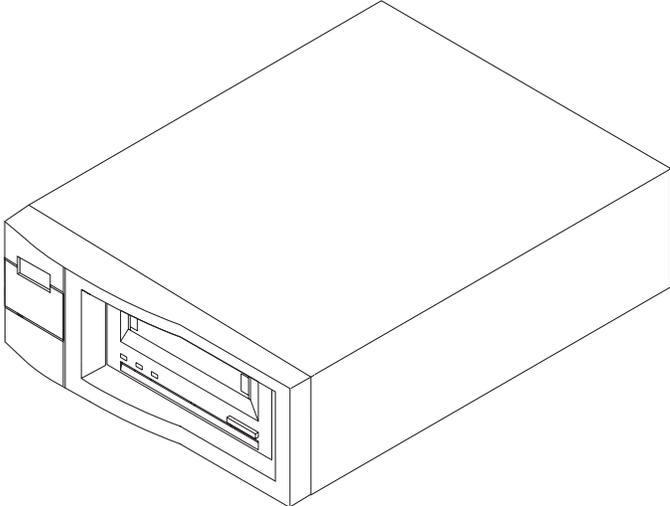

Figure 3. External Scorpion 40
- A complete external subsystem that contains the 3.5-inch DDS-4 drive and built-in worldwide power supply—model STD6401LW (See Figure 3).